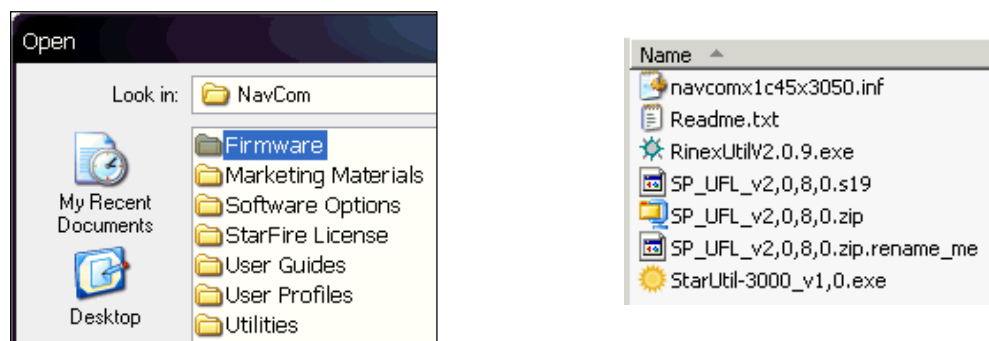

Figure 11: Firmware Folder
4. Browse to NavCom\Firmware on the PC (see Figure 11).